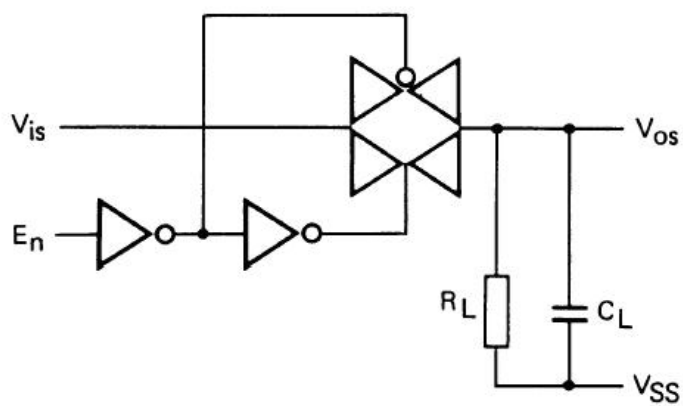

图 7
5. $R_L = 10\text{ k}$; $C_L = 15\text{ pF}$; $E_n = V_{DD}$; $V_{is} = 1/2 V_{DD}(\text{p.p})$ (正弦波, 直流偏置为 $1/2 V_{DD}$); $f_i = 1\text{ kHz}$; 见图7.
$20\log(V_{OS}/V_{IS}) = -50\text{dB}$; 见图7;
$20\log(V_{OS}/V_{IS}) = -3\text{dB}$; 见图7;